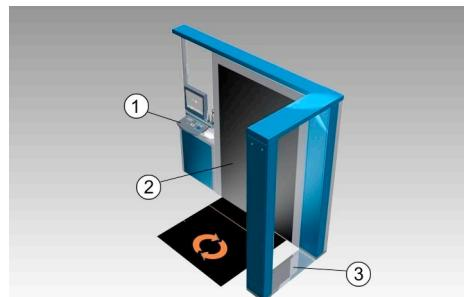
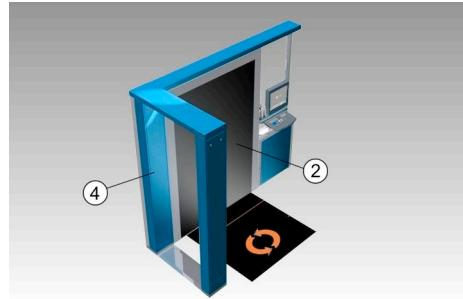

Fig. 4: Main components of the eqo system
Fig. 5: Left-hand version of the eqo system
The eqo system consists of three main modules (see Fig. 4), the local operator station ①, the flat scanning panel ②, and an entrance arch ③. The arch is attached at right-angles to the end of the flat scanning panel.
Two different variants of eqo's local station exist, a left-hand and a right-hand version. The variants differ in the position of the flat scanning panel ② which can be attached on either side of to the power supply pillar ④. Fig. 4 shows the right-hand version of the eqo, Fig. 5 the left-hand version. The right-hand version is defined as the configuration where the flat scanning panel is on the right-hand side of the person who will be scanned as they enter the system through the arch, and vice-versa for the left hand version.